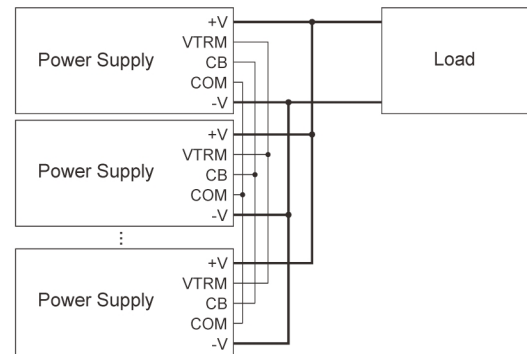

Fig.2.2 Example of parallel connection
- Units can be used in parallel operation by connecting them as shown in Fig.2.2.